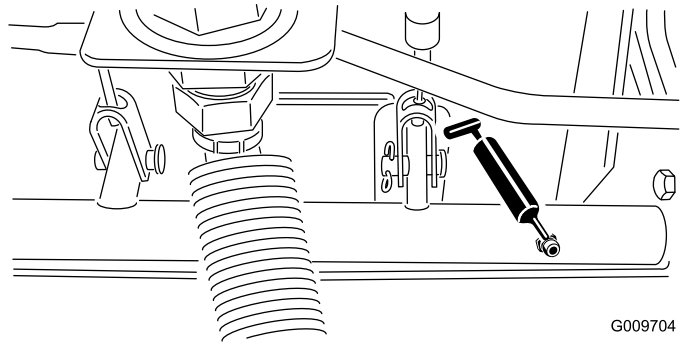

Figure 26
- Brake-shaft pivot bearings (5) (Figure 26)